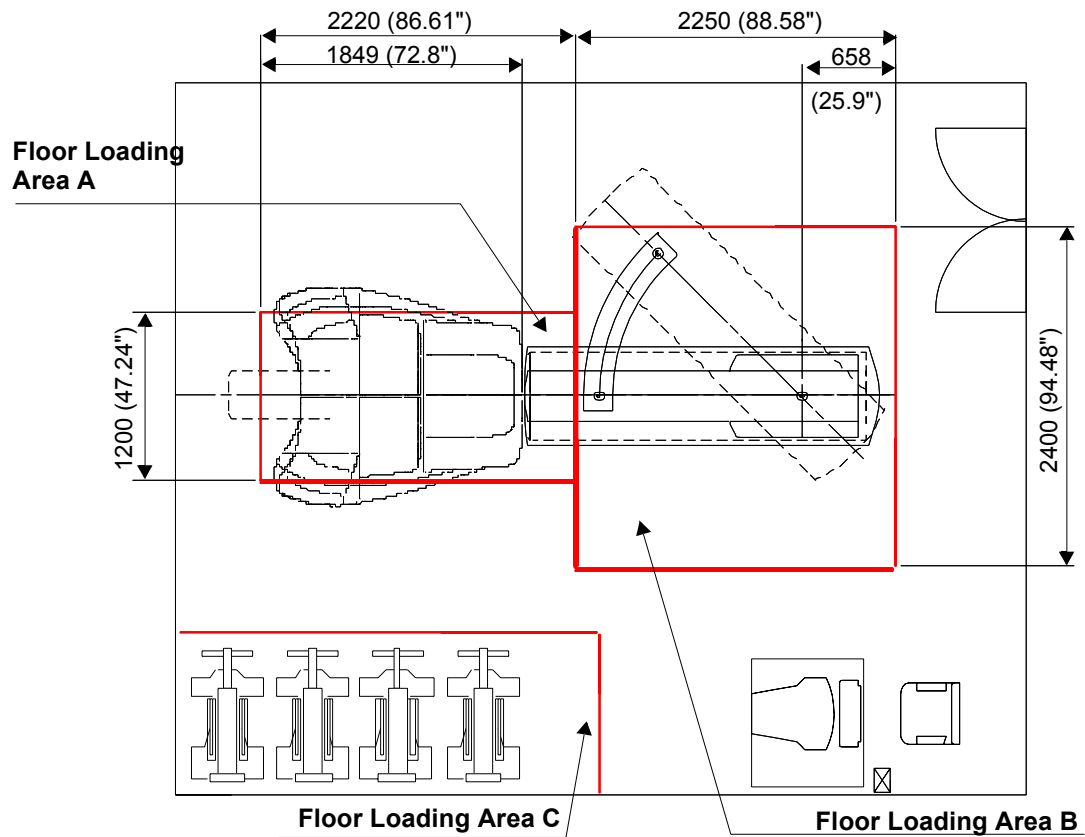

Figure 4-5. Floor Loading
- Floor loading capacity, as per Section 4.3 and Figure 4-5.
The floor loading areas for the Gantry, Table and Collimator Carts (floor loading areas A, B, and C, respectively) are shown in Figure 4-5.
It is recommended that the entire room will be leveled and flattened, according to the specifications given below. If this is not possible, at least the Gantry areas must be leveled and flattened. The dimensions of the minimum leveled and flattened area is shown in Figure 4-5, as Floor Loading Area A.
In case the Imaging System is to be installed on ground level and the floor is of concrete, a proper reinforced area must be prepared. It is recommended that the reinforced area be of casted concrete B-300 or stronger. The size and shape of the area should be according to Figure 4-5.